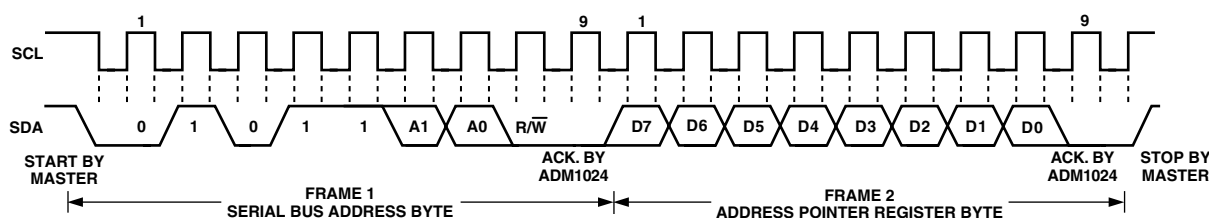

Figure 9b. Writing to the Address Pointer Register Only
1. If the ADM1024's Address Pointer Register value is unknown or not the desired value, it is first necessary to set it to the correct value before data can be read from the desired data register. This is done by performing a write to the ADM1024 as before, but only the data byte containing the register address is sent, as data is not to be written to the register. This is shown in Figure 9b.
2. If the Address Pointer Register is known to be already at the desired address, data can be read from the corresponding data register without first writing to the Address Pointer Register, so Figure 9b can be omitted.